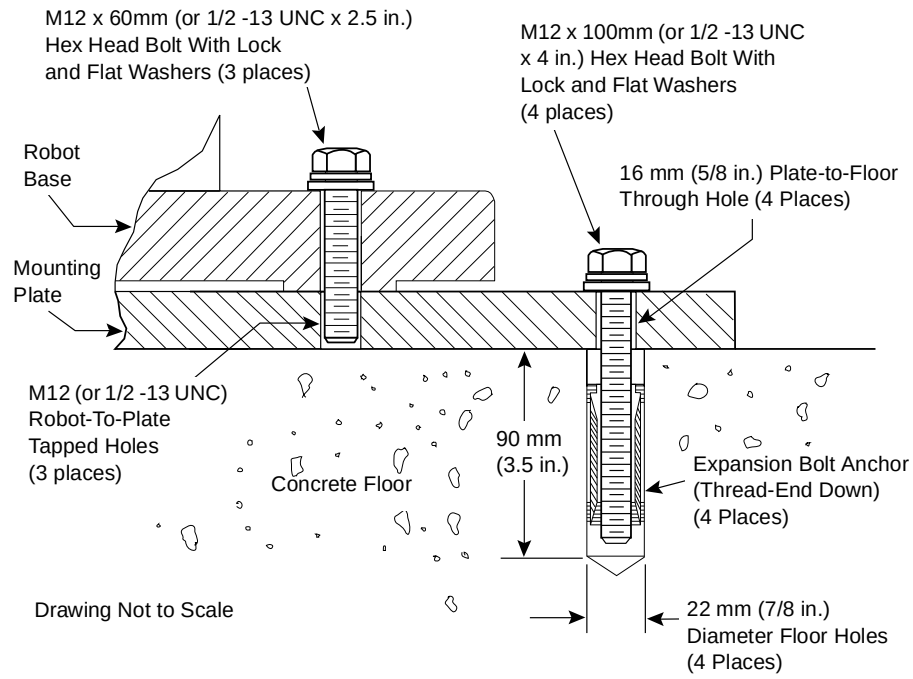

**Figure 3-4. Mounting Plate-to-Floor Installation Detail**
Figure 3-4 shows mounting plate installation details.
6. Insert an expansion bolt anchor into each of the four holes in the floor. Ensure that the threaded end of each bolt anchor is toward the bottom of each hole, as shown in Figure 3-4.